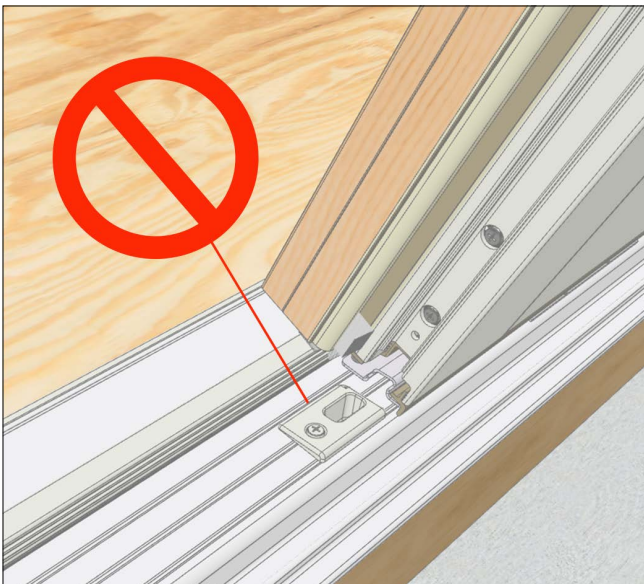

Figure 20
1. Ensure sill strike is not installed into the sill prior to installing the stationary panel to avoid catching stationary panels retainer bracket on the strike. See Figure 20.